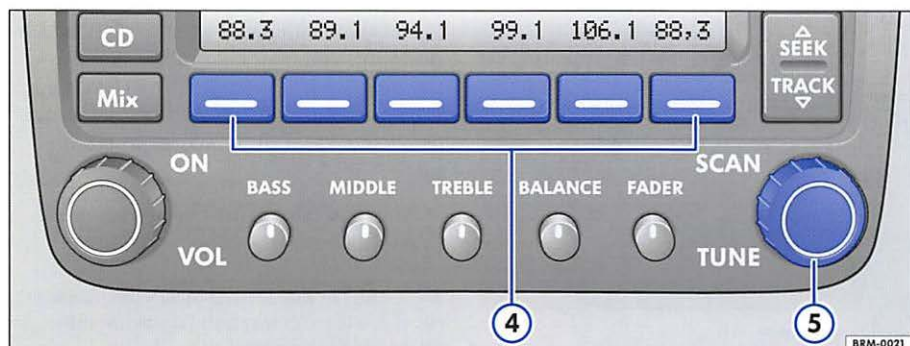

Fig. 14 Preset Buttons and SCAN/TUNE Knob
- Turn the **SCAN/TUNE** button (⇒ fig. 14 5) to manually select a channel in all categories.
- Press and hold down the **SCAN/TUNE** button (⇒ page 16, fig. 14 ⑤) for longer than 2 seconds to enter the set up mode. You'll hear a signal tone.
- In the lower part of the display the words **BASIC** and **DETAIL** will appear. By using the station preset buttons ⇒ page 16, fig. 14 ④ select either the basic or detail display.
- ⑧ **SELECT FREE SLOT** will appear in the display.
- Select the slot by pressing one of the station preset buttons ⇒ page 16, fig. 14
- ④ **INSERT CD** will appear in the display once the radio unit is ready to load a CD.